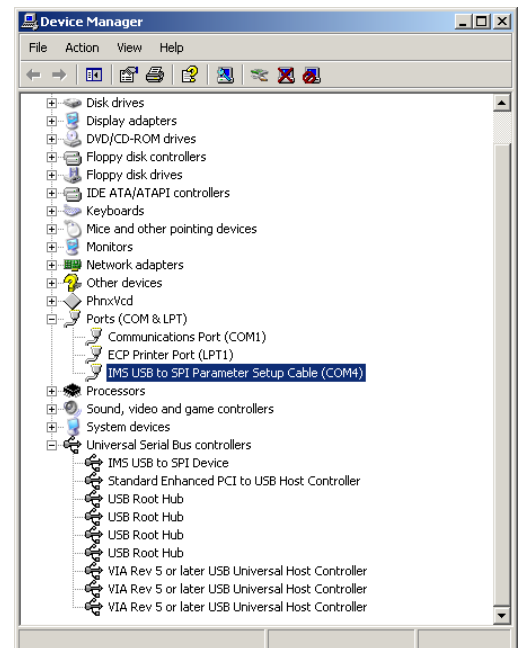

Figure A.10: Windows Device Manager
- 3) Look in the heading “Ports (COM & LPT)” IMS USB to SPI Converter Cable (COMx) will be listed (Figure A.10). The COM # will be the Virtual COM Port connected. You will enter this number into your IMS SPI Motor Interface Configuration.